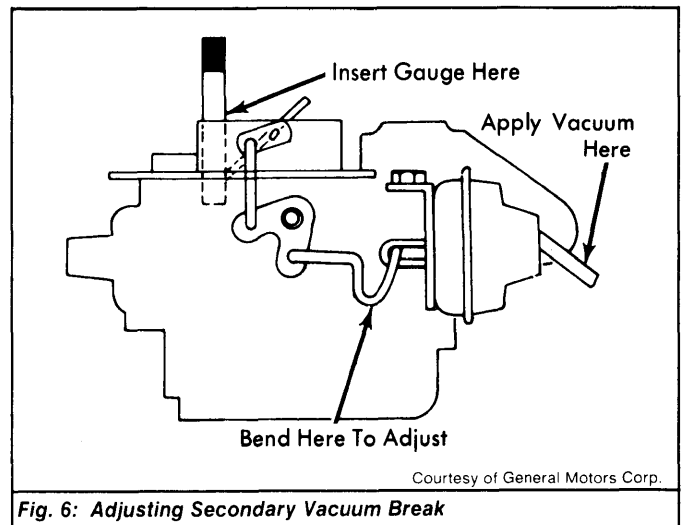

Fig. 6: Adjusting Secondary Vacuum Break
3) Bend rod at "U" shaped area to adjust. See Fig. 6. Reinstall choke coil assembly and set to correct index.